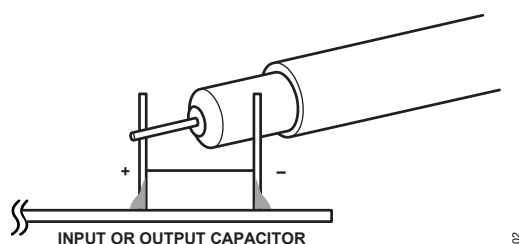

Figure 2. Scope Probe Placement for Measuring Input or Output Voltage Ripple
9. When measuring output or input voltage ripple, do not use the long ground lead on the oscilloscope probe. See Figure 2 for the proper scope probe setup. Short, stiff leads should be soldered to the (+) and (-) terminals of the output capacitor. The probe's ground ring should touch the (-) lead, and the probe tip should touch the (+) lead.